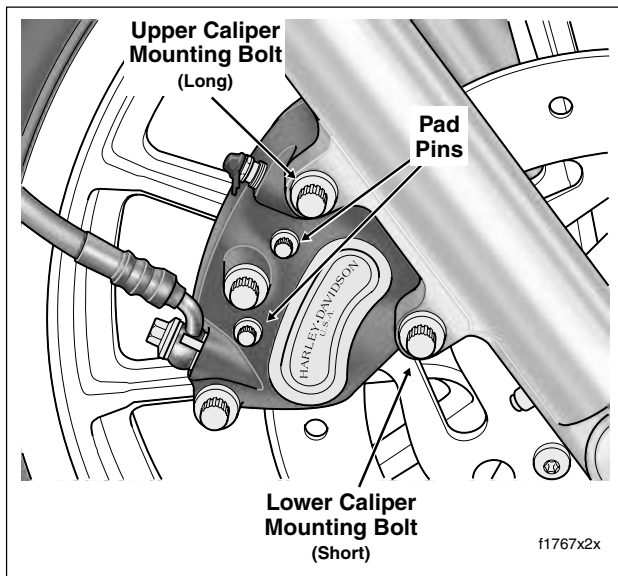

Figure 2-55. Loosen Pad Pins and Remove Caliper Mounting Bolts (Right Side View)
2. Loosen two pad pins, but do not remove. See Figure 2-55.
1. See Figure 2-55. Remove two pad pins. Remove brake pads from caliper housings.